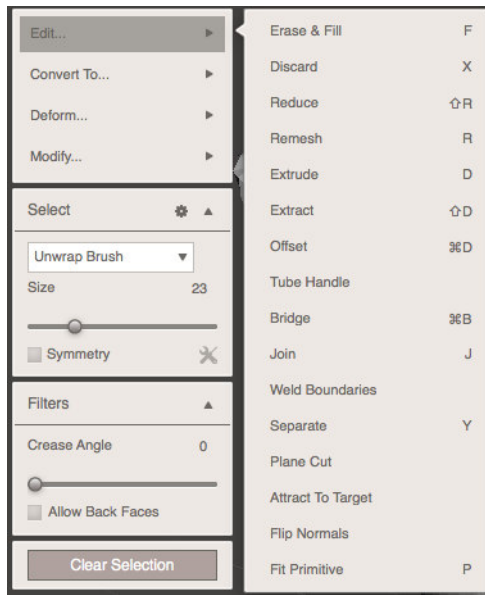

Figure 3-16 Additional options under the Edit menu
3. Play around with the other choices under the Edit menu to see how they work, especially Discard, Extract, and Offset (Figure 3-16).